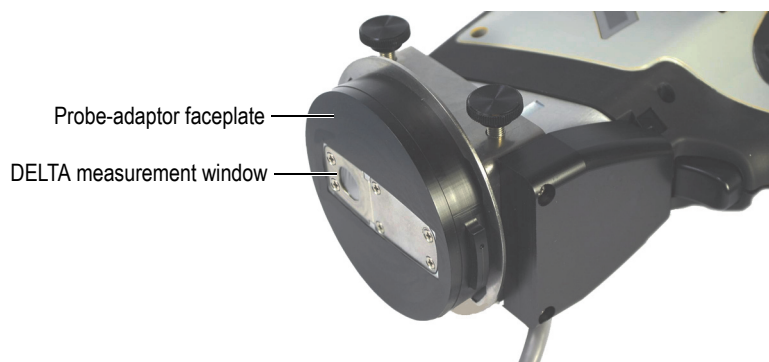

Figure F-11 DELTA measurement window flush with the probe-adaptor faceplate
3. Make sure that the DELTA measurement window is flush with the probe-adaptor faceplate (see Figure F-11 on page 172).